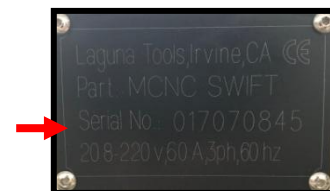

Figure 1
- Refer to the electrical tag on the back of the machine OR on the electrical cabinet (figure 1).